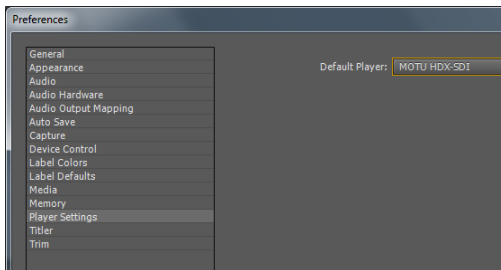

Figure 7-10: Choosing the HDX-SDI as the default player.
- 2 Choose the MOTU HDX-SDI as the Default Player (Figure 7-10).